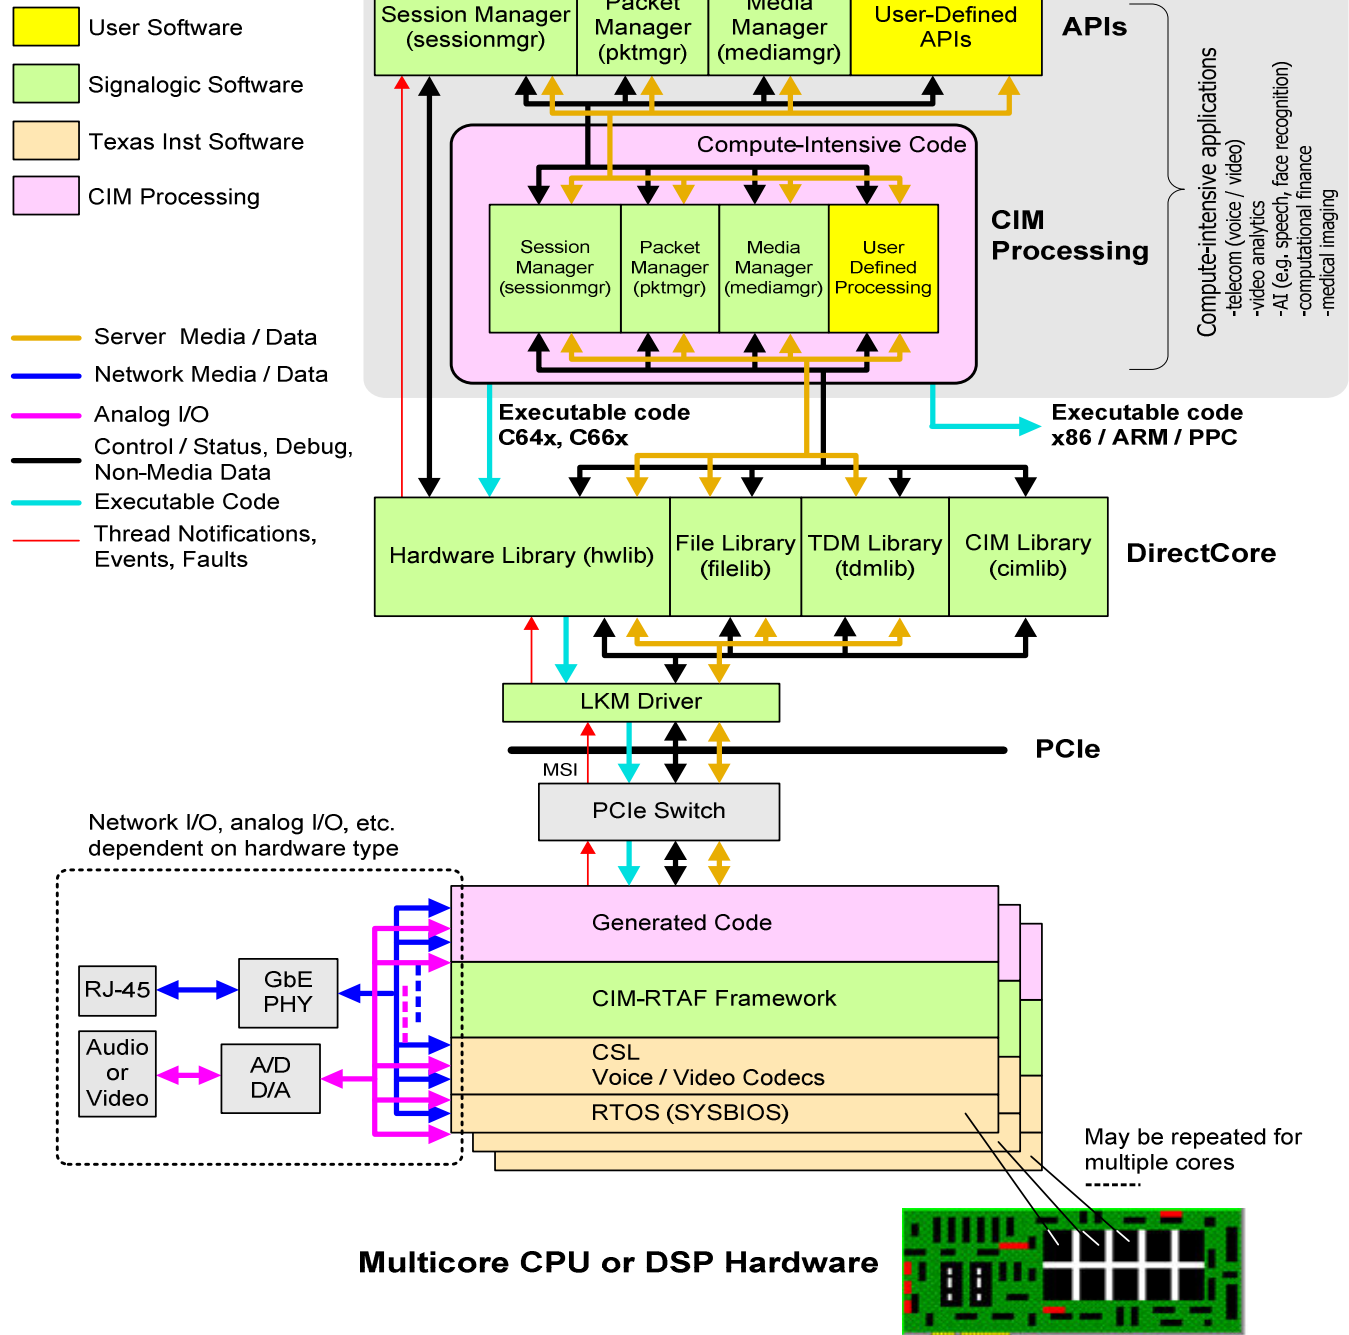
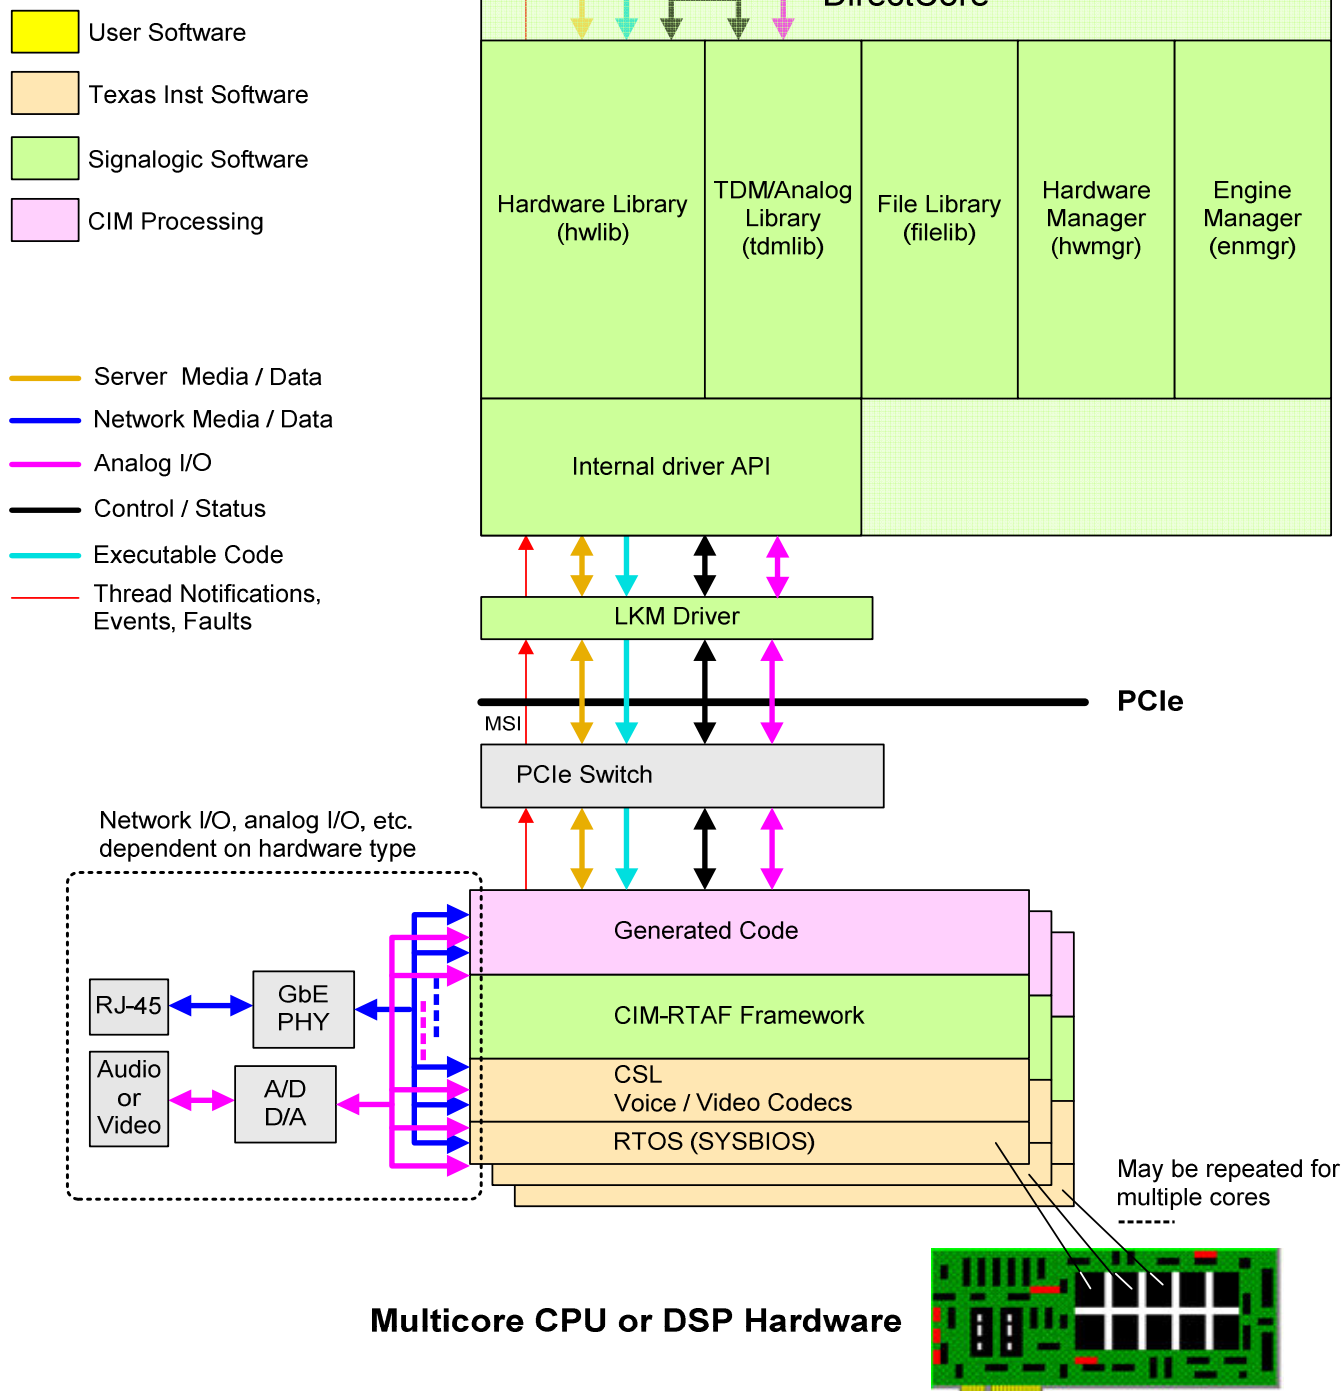

Figure 1-2 System Architecture Diagram, with DirectCore providing underlying hardware API
Figure 1-3 “Minimal Architecture” Diagram, with application layer calling DirectCore APIs directly
Figure 1-2 below shows a “minimal architecture”, with application API and CIM software removed, and user application programs directly accessing DirectCore APIs.
3. Hardware Manager and Engine Manager modules are not shown Figure 1-2, but they are part of DirectCore. They are shown in Figure 1-3.
As shown in Figure 1-3 above, DirectCore software is composed of several modules, or libraries, as described in Table 1-1 below.